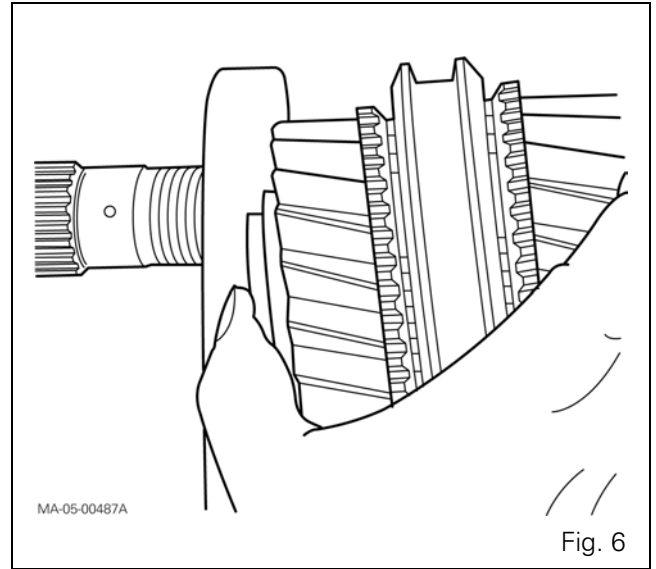

Fig. 6
- fit bearing cone (17) onto shaft (69) using a press and a suitable fixture;
- refit the flat sided washer (77), with the lubricating grooves turned towards the 1st gear pinion (7);
- refit snap ring (70).
24. Assemble the cups (2) and (16) inside the housing.
25. Refit the 1st, 2nd pinion, synchromesh (11), cones (73) (74) and ring (8) assembly in the housing.
26. Fit the shaft from the rear of the housing while holding the pinion / synchronizer assembly together (Fig. 6), making sure that ring (8) is correctly fitted in pinion (14).